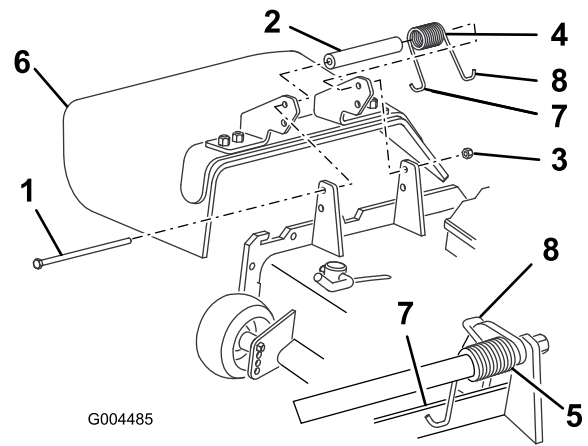

Figure 78
3. Place the spacer and spring between the replacement grass deflector brackets (Figure 78). Place the left hand J hook end of the spring behind the deck edge.
Note: Make sure the left hand J hook end of the spring is installed behind the deck edge before installing the bolt as shown in Figure 78.
4. Install the bolt and nut. Place the right hand J hook end of the spring around the grass deflector (Figure 78).
2. Remove the locknut, bolt, spring and spacer holding the deflector to the pivot brackets (Figure 78). Remove damaged or worn grass deflector.